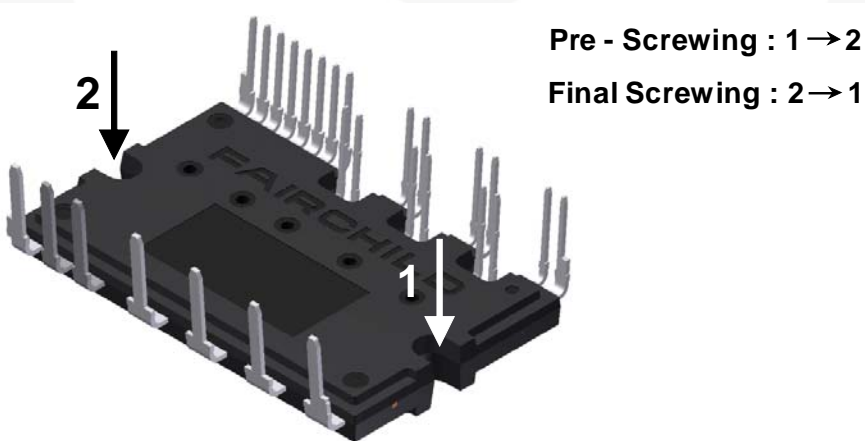

Figure 10. Mounting Screws Torque Order
| | See Figure 10 | Recommended 7.1 kg • cm | 6.2 | 7.1 | 8.1 | kg • cm |
- 12. Avoid one-sided tightening stress. Figure 10 shows the recommended torque order for mounting screws. Uneven mounting can cause the DBC substrate of package to be damaged. The pre-screwing torque is set to 20 ~ 30% of maximum torque rating.